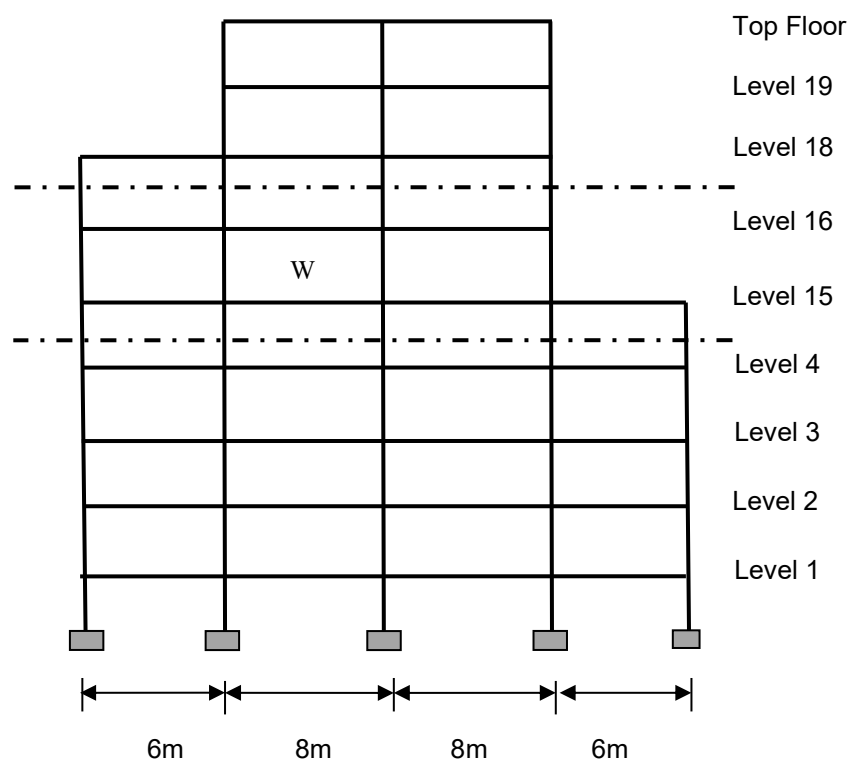

Figure 2
- (3). (a). A 20-storey rigid frame building with setback as shown in **Figure 2** is located in Zone 1 with terrain category 2. The interstorey height is 3 m and the frames are spaced at 8 m. The width of the building is 24 m. Estimate the value of the design wind pressure on the wind ward direction, W at the top floor of the frame according to MS1553:2002. Indicate all assumed values used in the calculations. Design data can be extracted from MS1553 (2002).